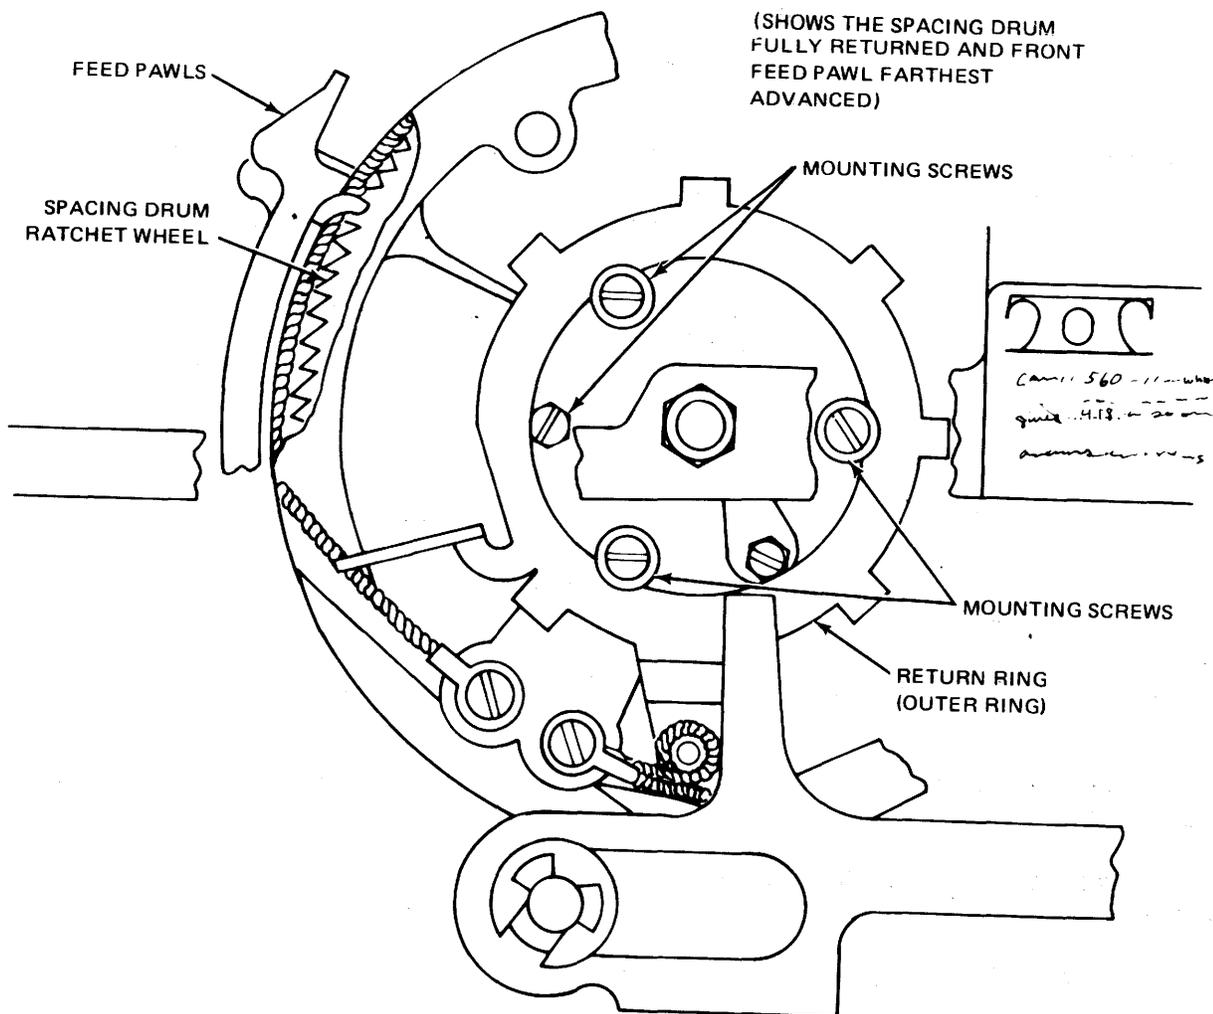

Figure 6-2. Left Margin Adjustment (Front View).
b. Verify that the front feed pawl is farthest advanced; if not, depress keyboard space bar once (see figure 6-2).
d. Loosen four carriage return ring mounting screws (see figure 6-2).